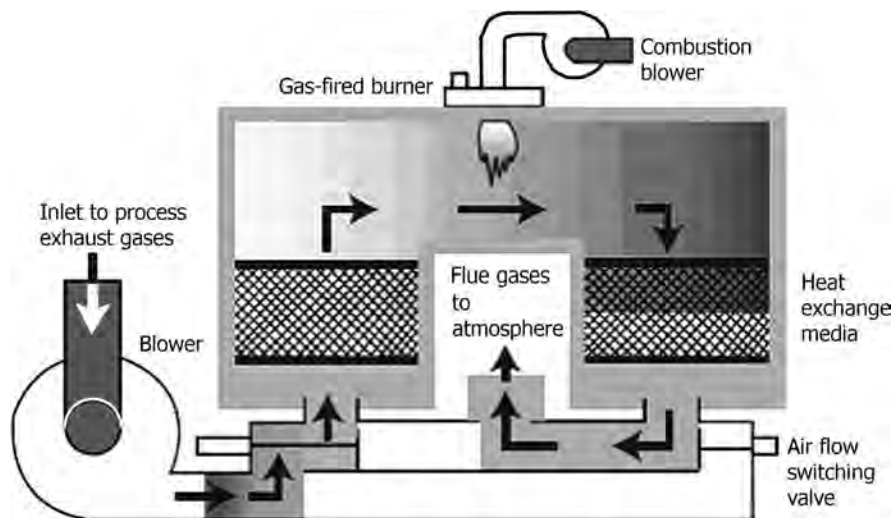

FIGURE 14.13 Regenerative two-bed oxidizer.
- The module is an insulated box with heat exchange media, usually ceramic packing. Structured ceramic packing is more compact than random packing. At least two modules are used; while one absorbs heat from the flue gas, the other releases heat into the waste gas (Figure 14.13). When a box is saturated with heat, it is taken off-line, with waste gas passing through it backward until the box is cooled. Once cooled, it is returned to handle hot flue gas.